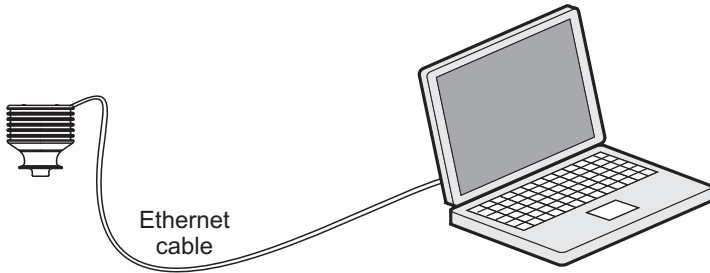

Figure 2.1 Simple network configuration.
In the simplest form the network consists of one refractometer and one computer. This configuration is shown in figure 2.1.
All Sanitary OEM Refractometers are shipped with the factory default IP address of 169.254.23.33. This address belongs to the Zeroconf addresses (as defined in IETF standard RFC 3927) so that it can easily be reached from a stand-alone computer (figure 2.1), usually without changing the network settings of the computer. *This address will remain in the instrument even after a different IP address has been set. The sensor answers in the address that is first called up after startup.*
- set up a network of only one Sanitary OEM Refractometer and one computer (figure 2.1)